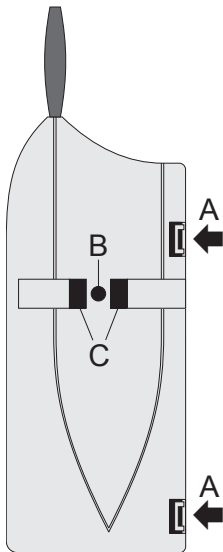

Figure 4
- Open the casing; the two casing halves are secured by two catches ('A' in figure 4 below).
Alternatively you can attach it with a screw through the opening 'B', see figure 4 on page 11. This also prevents it from being easily removed from the wall (sabotage protection).